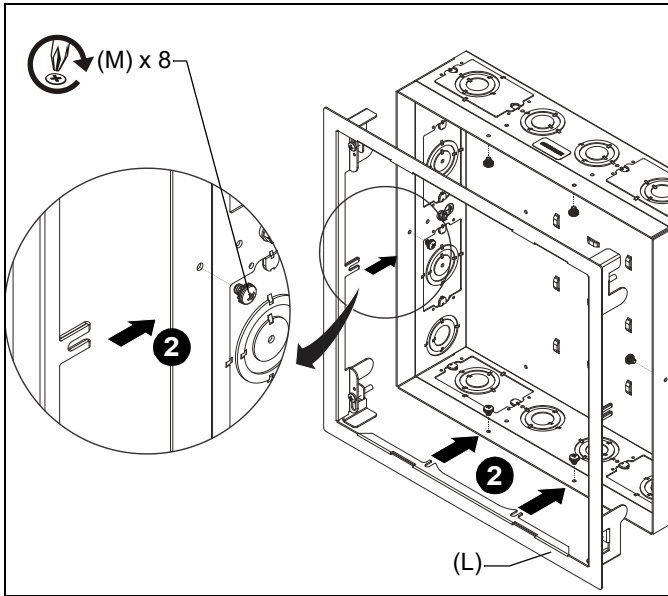

Figure 12
- Slide flange (L) into PAC525/526 over installed screws, and tighten screws. (See Figure 12)